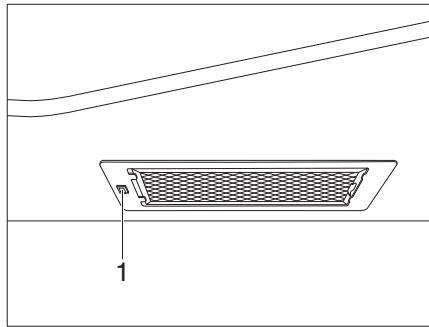

Fig. 317 Extractor hood
- Use the switch (Fig. 317,1) to turn the extractor hood on and off.